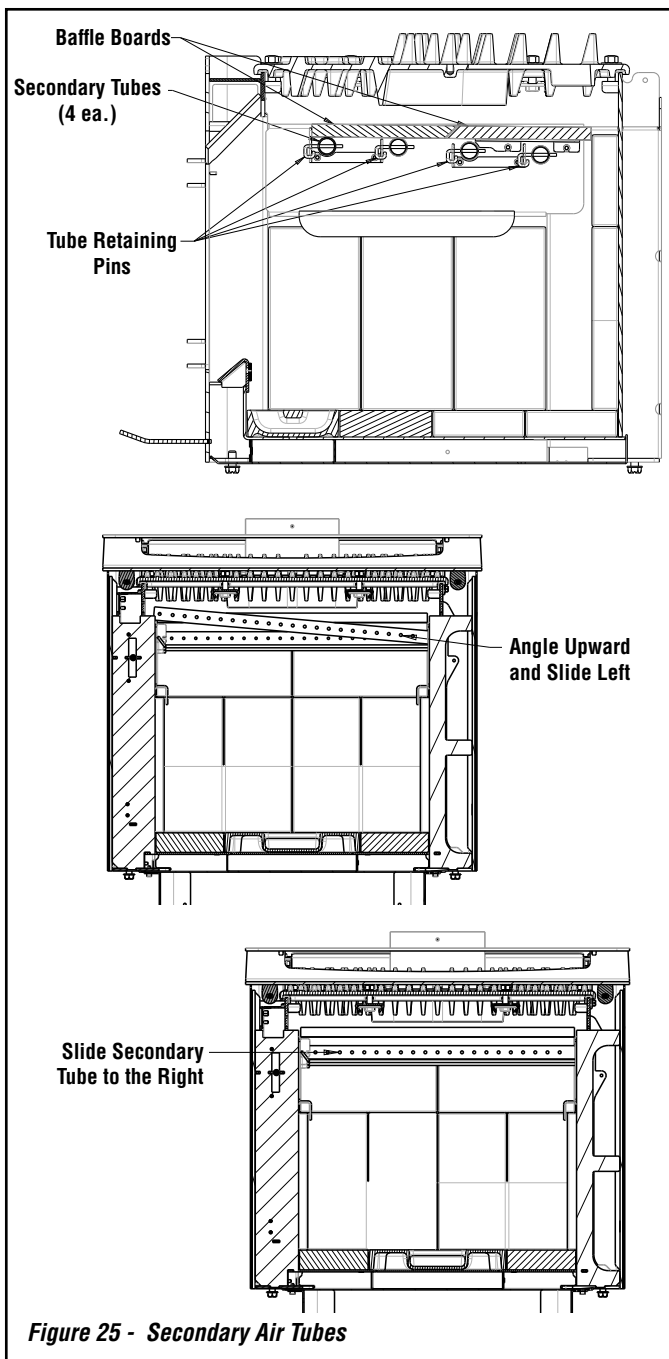

Figure 25 - Secondary Air Tubes
1. Install brick #1-6 in the numbered sequence shown in **Figure 25**.
3. Install remaining brick #7-26 in the numbered sequence shown in **Figure 25**.